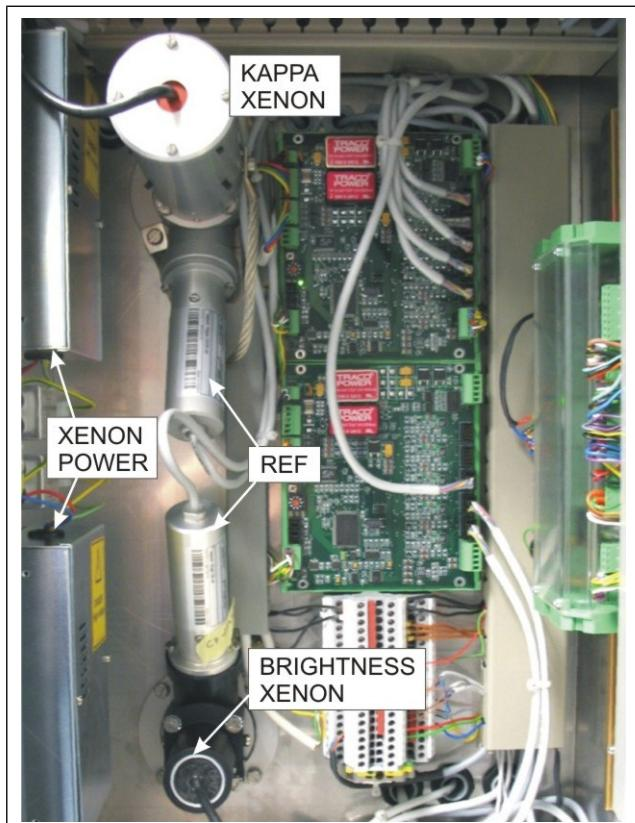

Fig. 4. Module electronics box, opened: Xenon Power = Xenon power supply, Xenon = Xenon lamp, REF = reference detector.
The kappa measurement cell (2) is used to determine pulp kappa number. The analyzer also monitors the cleanliness of the cell. Pulp brightness is measured in the Brightness cell (3). The measuring cells and light source are installed in the module electronics box, located in the measurement unit (Fig. 4).